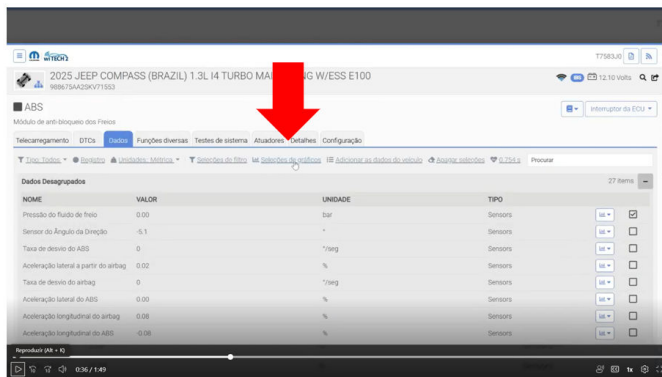

Fig. 5
- 7. Select the graphics function Fig. 5.